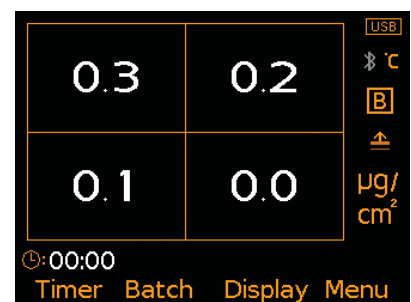

Fig. 2: Readings x4
- **Readings x4** (Fig. 2); The measurement area is split into four Bresle Patch size quadrants and four Bresle Patch or Elcometer 130 equivalent readings are displayed simultaneously.